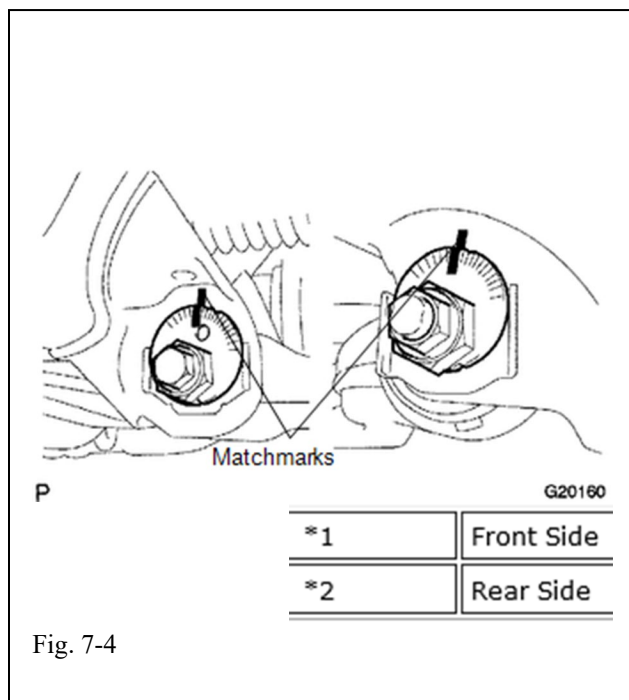

Fig. 7-4
- (g) Align the matchmarks on the camber adjust cam No. 2 and toe adjust cam. (Fig. 7-4)